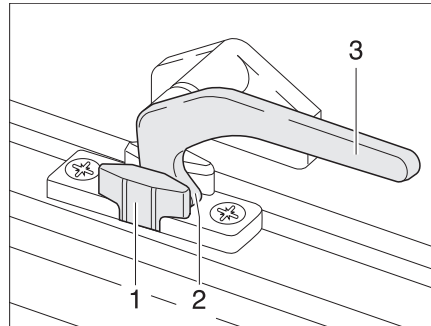

Fig. 12 Catch lever in the "continuous ventilation" position
- "Continuous ventilation" (Fig. 12)
- Turn the catch lever (Fig. 12,3) a quarter turn towards the centre of the window.
- Return the catch lever to its initial position. The locking catch (Fig. 12,2) has to be moved into the recess of window catch (Fig. 12,1).